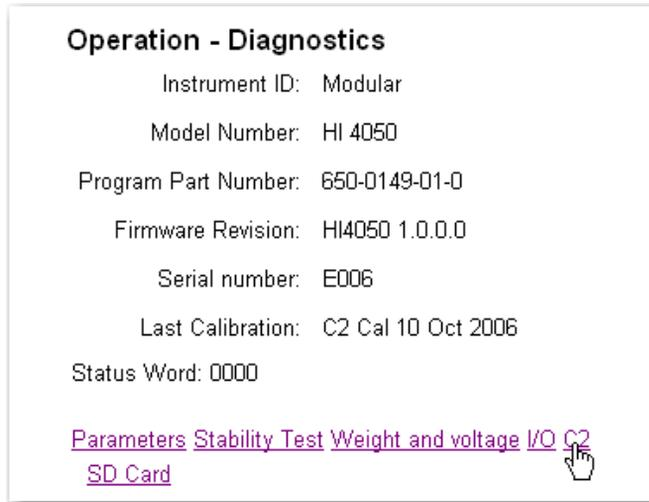
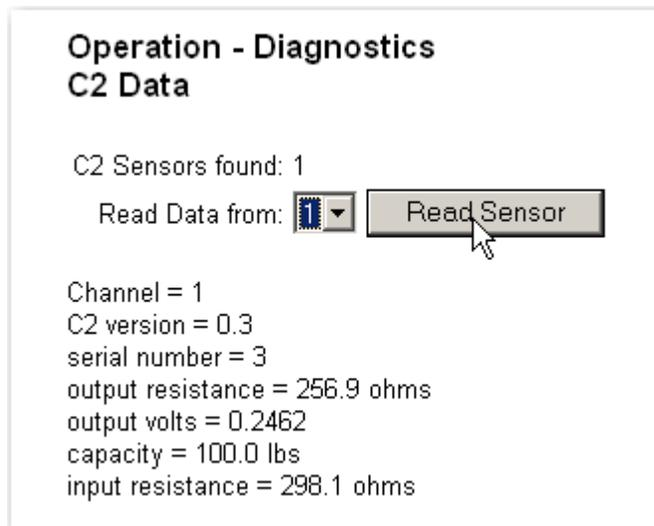

FIG. 424 DIAGNOSTICS/SELECTING C2
FIG. 425 DIAGNOSTICS/C2 DATA PAGE
- Step 1. Click on “C2” at the bottom of the page. (See Fig. 424) The C2 Data page appears listing the number of C2 load sensors that are found in the weighing system. (See Fig. 425) In our example there is only one (1) C2 load sensor found.